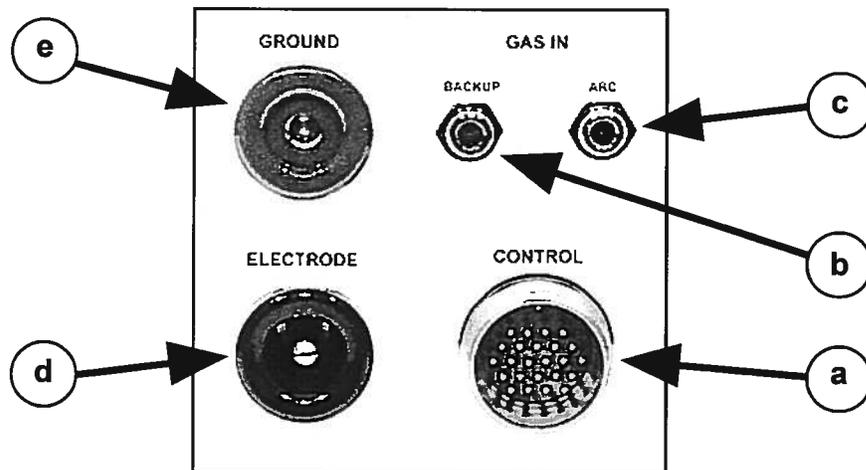

FIGURE 2
2. Using the factory supplied interface cable (P/N 843-0465), from the rear panel of the ACL to the rear of the DWA, make certain all the connections are secure (Figure 2).